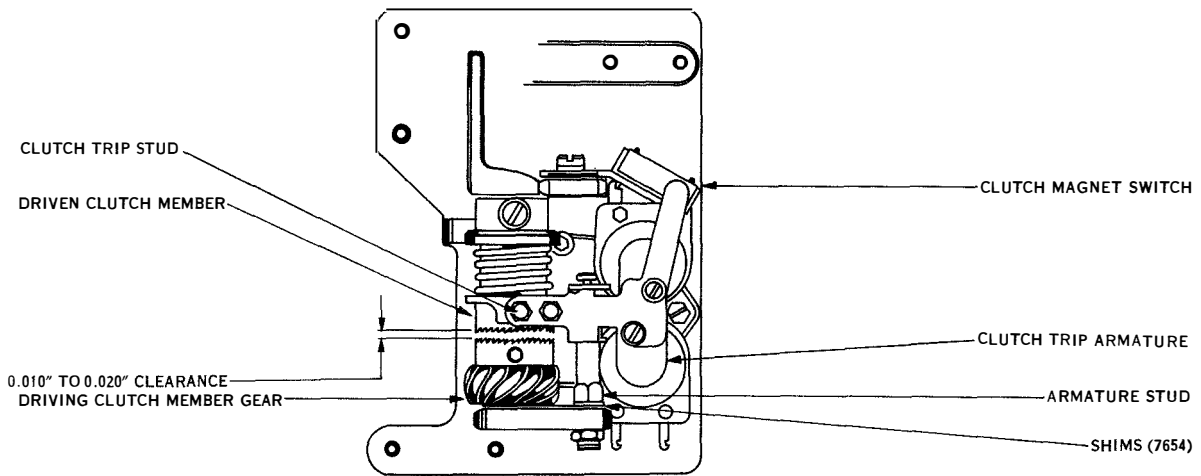

Figure 7-69. Tape Feed-out Clutch
(91) **TAPE FEED-OUT CLUTCH TEETH.** (See figure 7-69.)—There should be a clearance of 0.010 to 0.020 inch between the teeth of the two clutch members. To check, disengage the driven clutch, against the clutch trip stud, and take up the end play in the driving clutch member in a direction to make the clearance between the clutch teeth a minimum. To adjust, add or remove No. 7654 shims between the armature stud and casting.